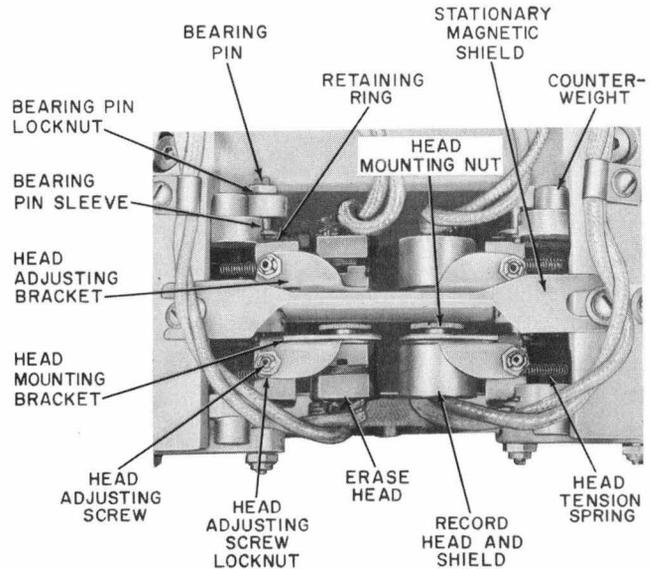
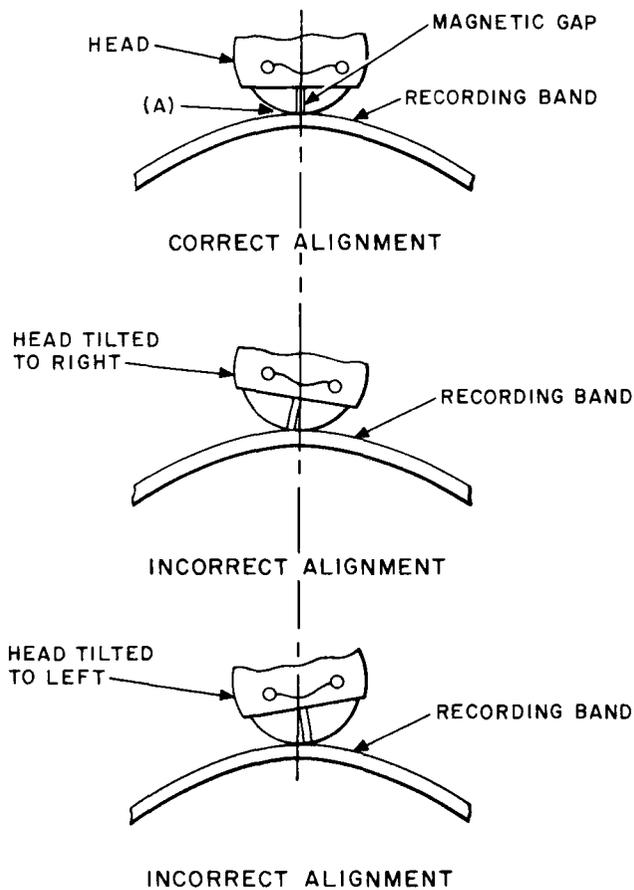

Fig. 13 — KS-12068 L3 and L3 Converted per X-4174 Recorder-Reproducers — Erase and Record Head Assembly and Associated Parts
Fig. 15 — Position of Magnetic Gap of Head on Recording Band — KS-12068 Recorder-Reproducers
See Fig. 13 and 14 for location of parts and Fig. 15 for head positioning.
3.16 Positioning of Heads — L3 and L3 Converted per X-4174 Machines: After securely mounting the record or erase head, position the head so that it rests on the surface of the recording band at the magnetic gap between the pole pieces. (See Fig. 15.) On erase heads, position the head as described in (a). On record heads, position the head as described in (b).
3.18 Method of Positioning Heads — L4 Machine: After mounting the record or erase head, position the head so that it rests on the surface of the recording band at the magnetic gap between the pole pieces (Fig. 15). On erase heads, position the head as described in (a) and on record heads, position the head as described in (b).